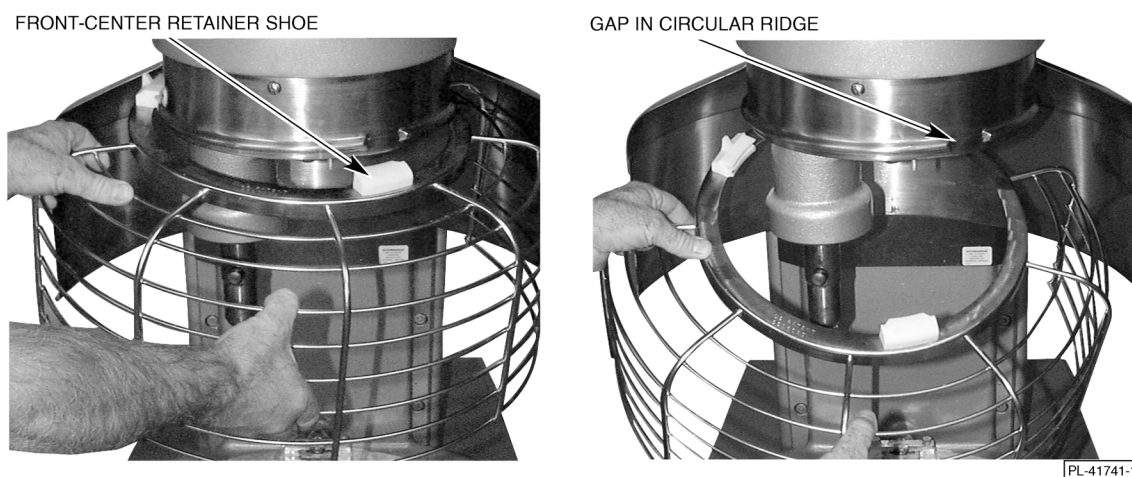

Fig. 8
Remove Wire Cage Assembly (Fig. 8)
5. Continue rotating the Wire Cage assembly so the opening is to the front of the mixer (to install the accessory) or until it stops at the Front-Center Position (Fig 8).